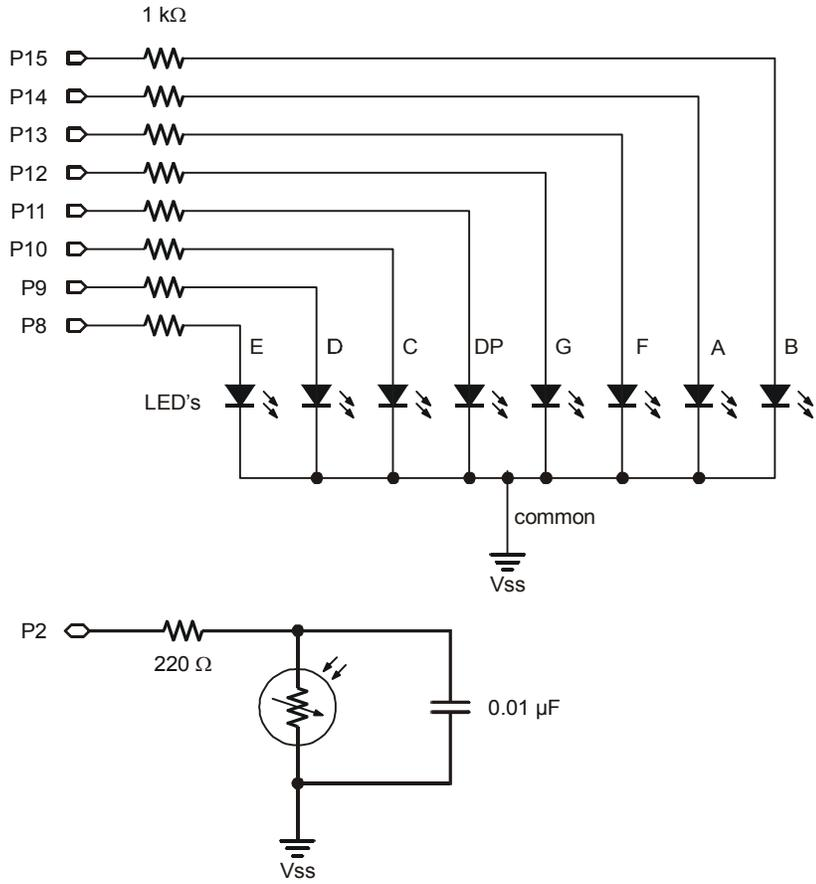
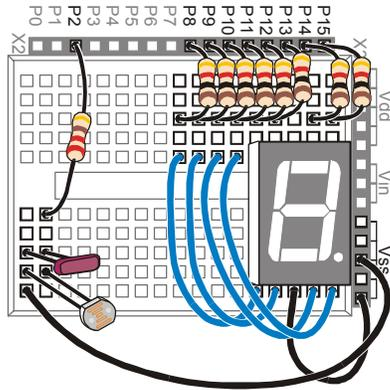

Figure 7-9
Figure 7-10
Figure 7-9 shows the 7-segment LED display and photoresistor circuit schematics that will be used to make the light meter, and Figure 7-10 shows a wiring diagram of the circuit. The photoresistor circuit is the same one you have been using in the last two activities, and the 7-segment LED display circuit is the one that was controlled by the BASIC Stamp in Chapter #6.
- √ Build the circuit shown in Figure 7-9 and Figure 7-10.
for Figure 7-9